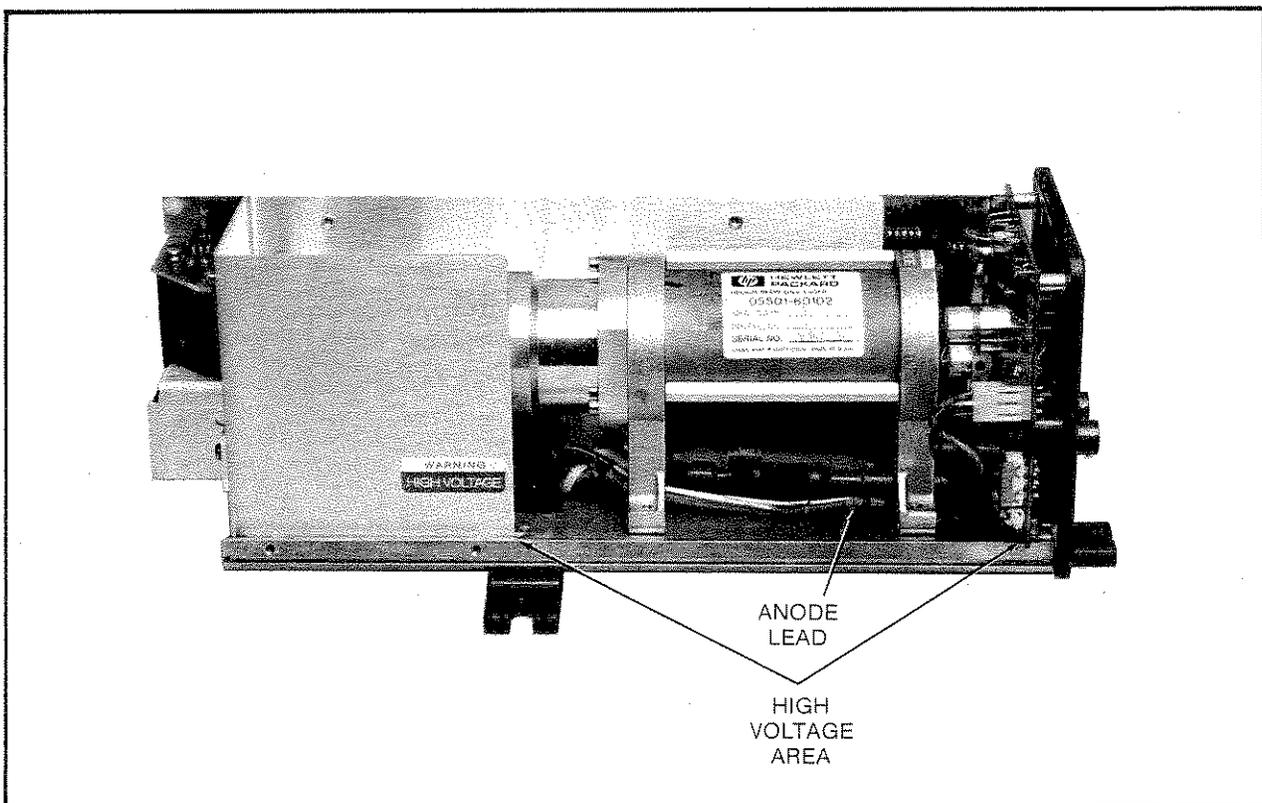

Figure 5-3. 5501B High Voltage Area and Anode Lead
- f. Clip the HP 428B probe around the red (Anode) High Voltage Power Supply wire located underneath the laser tube (See *Figure 5-3*). The arrow on the milliammeter probe should point away from the supply. Keep the probe as far as possible from and perpendicular to the magnet assemblies. It may be necessary to prop up the probe to achieve the perpendicular orientation.